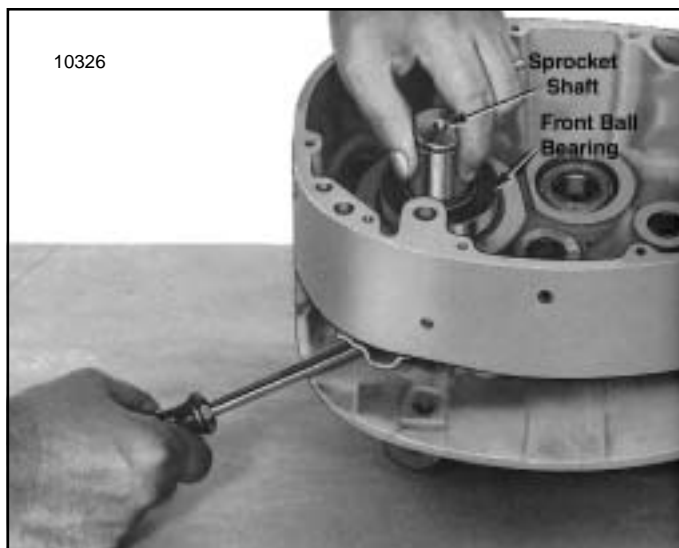
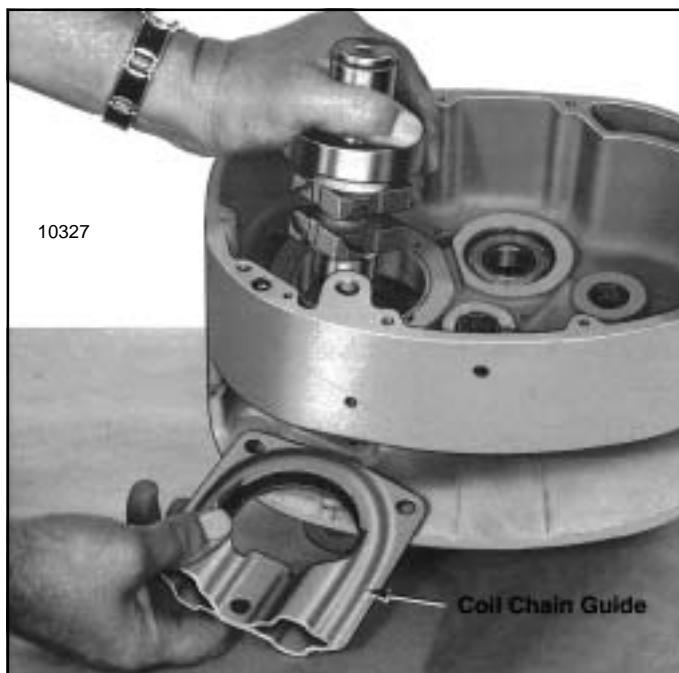
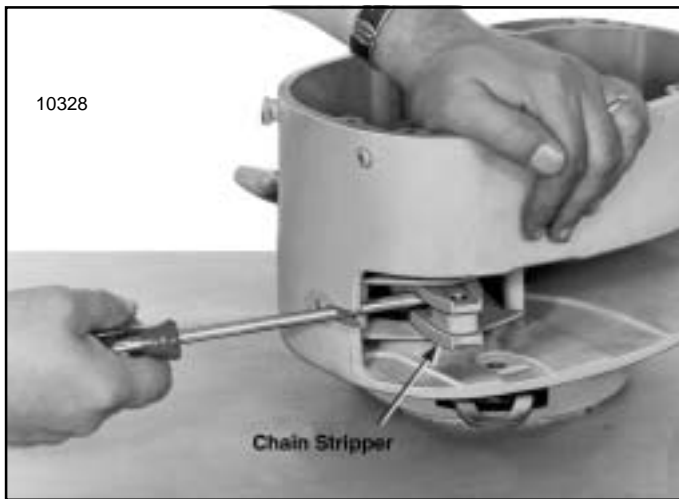

Figure 7-14. Removing Sprocket Shaft and Front Bearing
Figure 7-15. Chain Guide Being Removed from Frame as Sprocket Shaft is Lifted Out (Link Chain Models)
Figure 7-16. Chain Stripper being partially removed from Chain Guide (Roller Chain Model)
(4) Remove sprocket shaft and front ball bearings assembly from frame by lifting up on end of shaft while prying up on sprocket as illustrated in figure 7-14. The chain guide will need to be repositioned in frame as sprocket shaft is raised to allow the sprocket to pass thru hole of guide (fig. 7-15). On roller chain model hoists, the chain stripper must be partly removed from guide by prying it out using screw driver or other suitable tool. See figures 7-16 and 7-17.